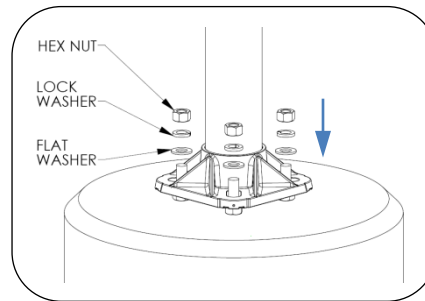

Fig.9 – Install pole
15. Lift the light pole into position over the installed anchors (refer to Typology Ring Light anchor kit installation guide) as shown in Fig. 9. Ensure that the base plate is resting on all four washers.
16. Install washer, lock washer and hex nut as shown in Fig. 9.